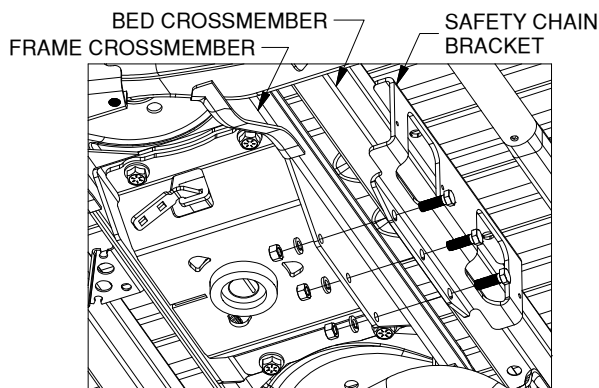

FIGURE C1: View looking up at center from under the truckbed.
1. **Install safety chain bracket.** With the Center section loosely attached to the truck frame, locate and install the safety chain bracket by inserting the flange of the bracket with four holes between the bed crossmember and the frame crossmember and pushing up against the truckbed. Attach the safety chain bracket to the center section with three 1/2" x 1-1/2" bolts, 1/2" lock washers, and 1/2" nuts, as shown in figure C1. Do not fully tighten at this time.